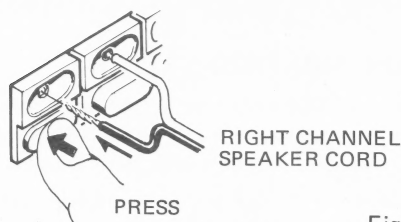

Fig. 2
1. As shown in Fig. 2, strip about 10mm of the insulation from the end of the speaker cord. If the conductor is stranded, twist the strands together to prevent spreading.